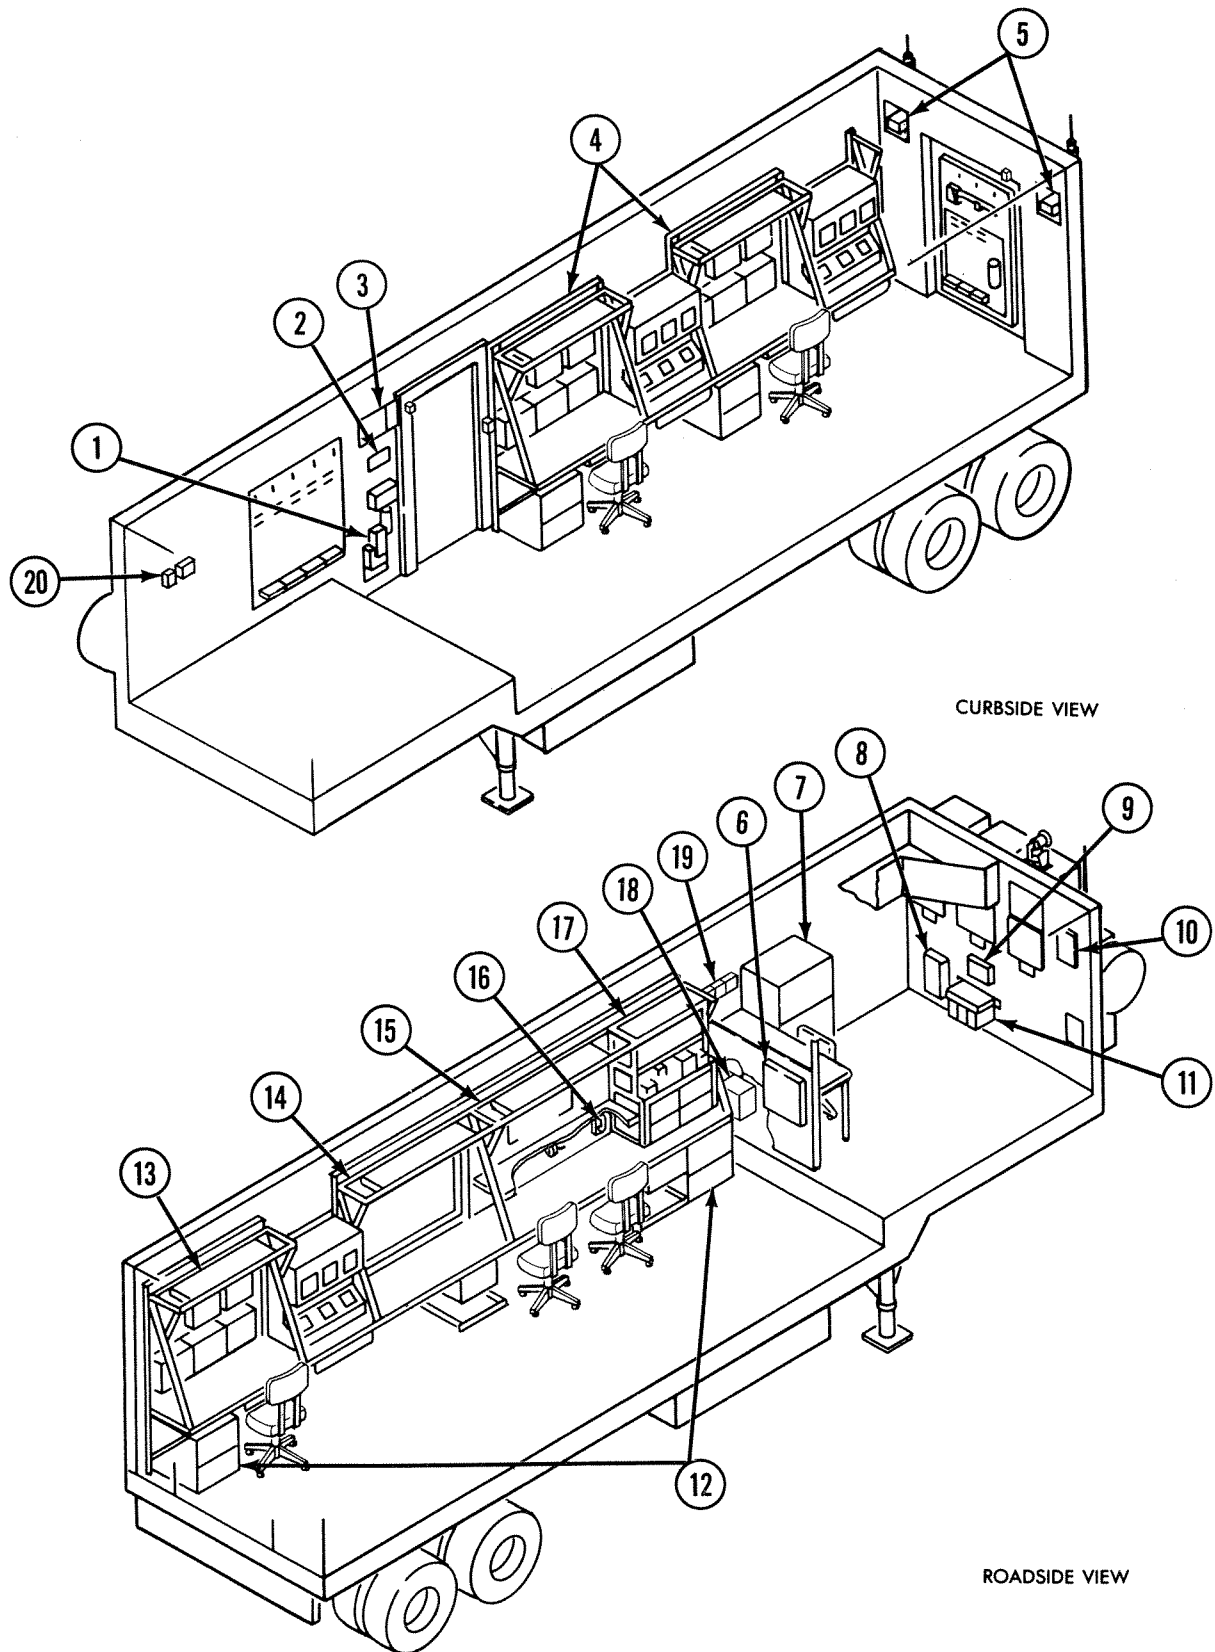

Figure 2-28. CAS Van Major Interior Features
b. Interior Features. Figure 2-28 shows CAS van major interior features.